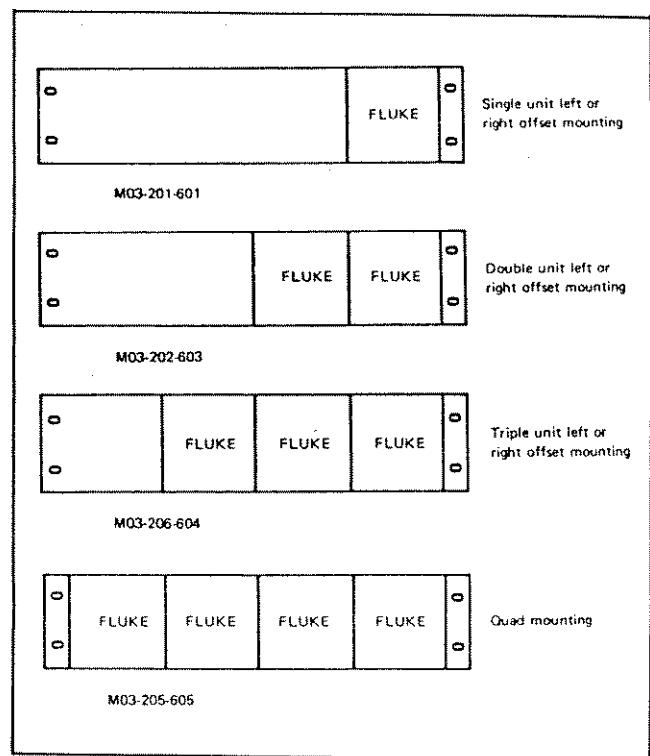

Figure 6-1. RACK MOUNTING CONFIGURATIONS.
6-4. Rack mounting kits for the 731B are available in four difference configurations. Each of the configurations as shown in Figure 6-1, is designed for installation in a standard 19-inch equipment rack. The kits contain all of the hardware necessary for installation and each can be assembled to offset the 731B ('s) to either the left or right side of the equipment rack.
- c. Refer to the kit shown in Figure 6-1 and select the instruments to which each of the rack ears will be attached.